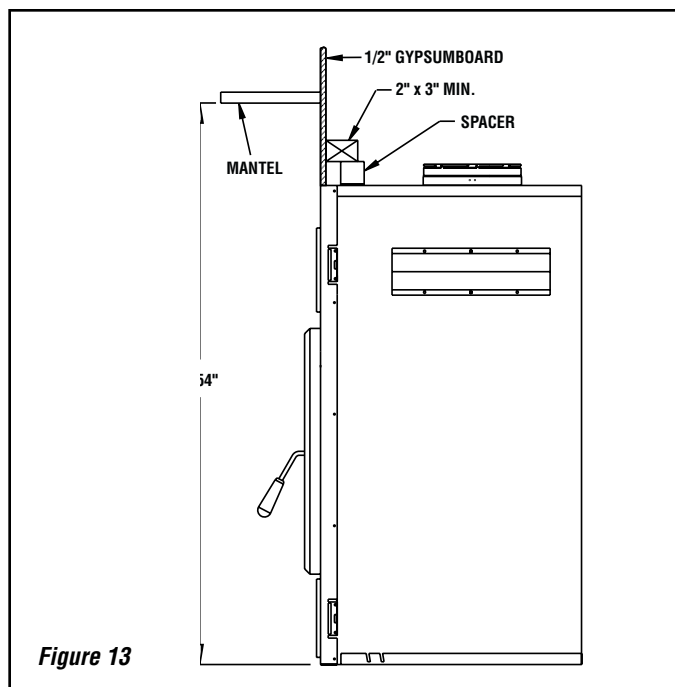

Figure 13
1. Combustible wall (such as drywall panels) must be installed flush with the fireplace. It may not project in front of and on the fireplace (i.e. the steel facade of the fireplace (see **Figure 13**).
The mantel must be installed at least 54" (1372 mm) above the base of the fireplace (see **Figure 13**).